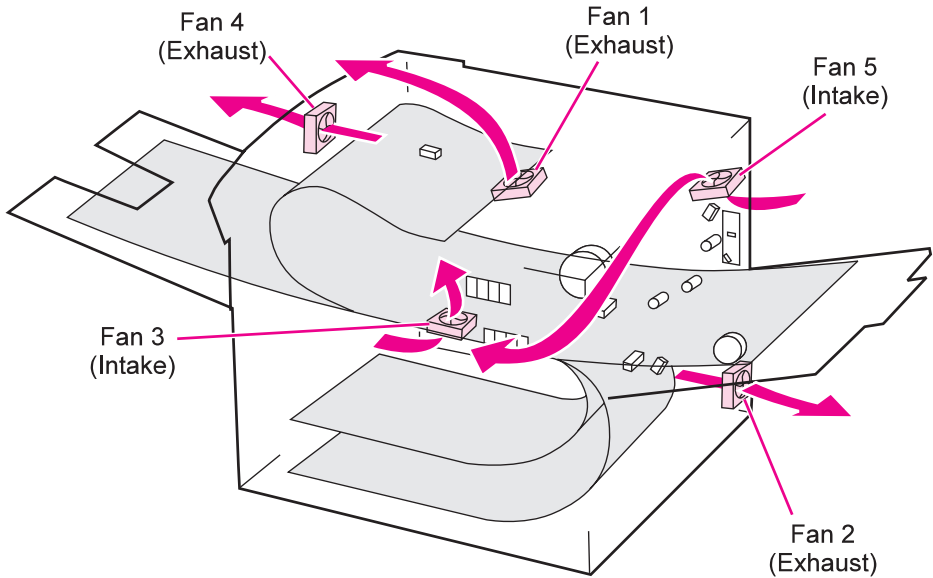

Figure 7-9 Fan Location and Airflow
3. Are the printer's fans on? (See figure 7-9 on page 536 to locate the fans.)	Note: Fan operation is significant since all fans are controlled by the printer's DC Controller PCA. When the printer is in PowerSave mode, the fans are off. Make sure that the printer is not in PowerSave mode. Press Go . Operational fans indicate: <ol style="list-style-type: none">1. AC power is present in the printer.2. DC power supply is functional (both 24V DC and 5V DC are being generated).3. DC Controller PCA's micro-processor is functional.